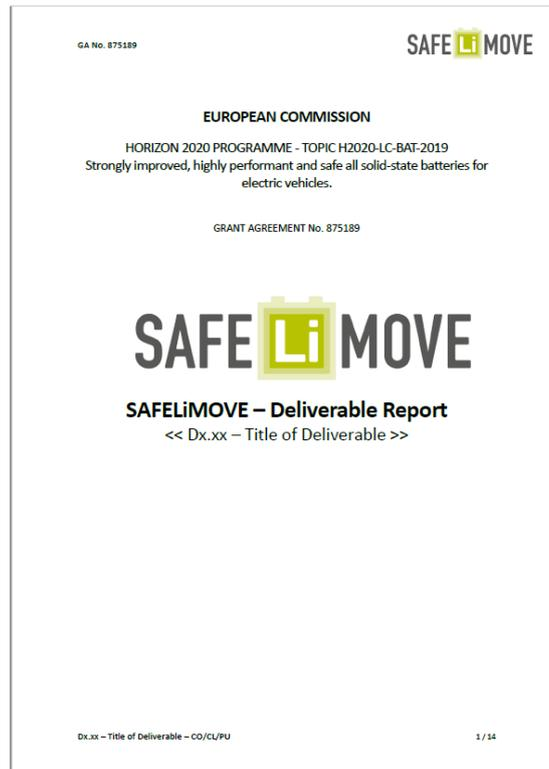

Figure 3 – SAFELiMOVE Deliverable report title page
- Template for deliverables; is used by the partners to report on the project deliverables. It contains all the necessary parts of the deliverable reports, like front/title page, publishable summary, description of work performed, conclusions, risk registry and acknowledgement Figure 3 – SAFELiMOVE Deliverable report (Figure 3 Figure 3).